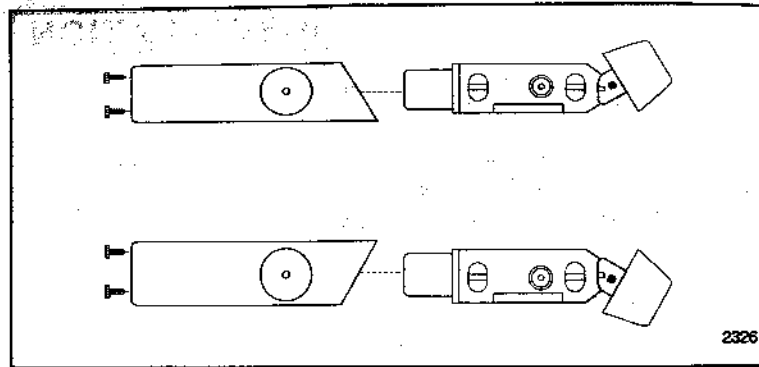

Figure 1. Viewing Angles
- After the location is determined, choose the viewing angle of the front panel. If the transceiver is mounted overhead, it is probably preferable to tilt the face down for better viewing. If it is mounted below eye level on a flat surface, it is probably preferable to tilt the face upward. The face can be tilted up or down as illustrated in Figure 1.